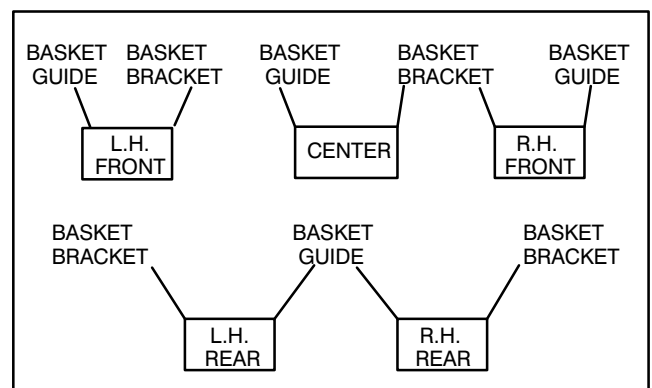
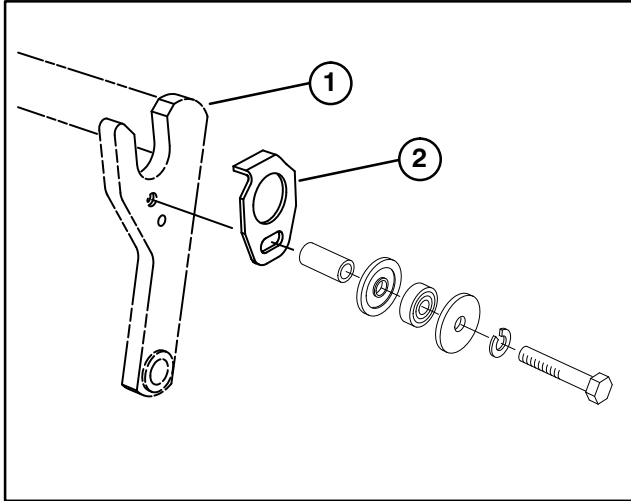
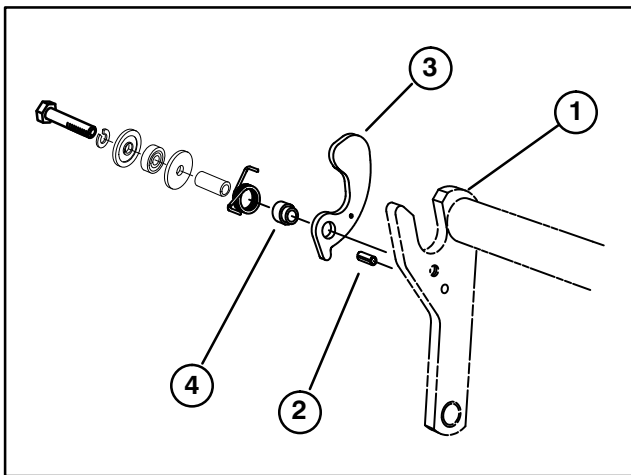
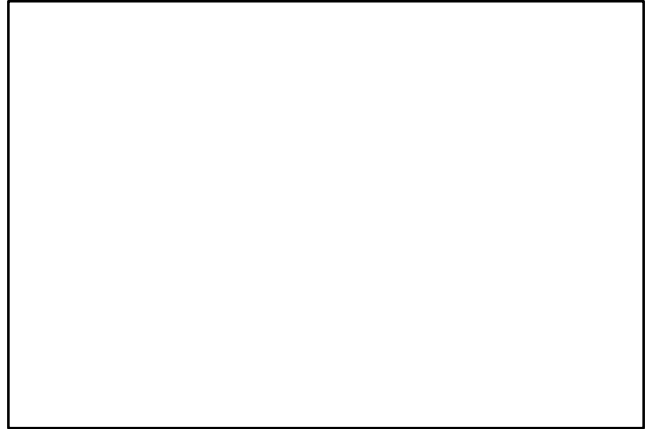

Figure 7
Figure 8
Figure 9
Figure 10
2. Using chart below (Fig. 7) determine the locations at which basket guides or basket brackets must be mounted to cutting unit carrier frames.
Note: If cutting units are equipped with Turf Compensation Kits, remove hardware securing kit to each end of carrier frame (Fig. 8 & 9) and reuse when installing basket guides and basket brackets.
3. Mount a basket guide (Fig. 8) to the appropriate side of each cutting unit carrier frame (see figure 7) with a 5/16-18 x 1-3/4" lg. capscrew, flatwasher and lockwasher or fasteners previously removed, as shown in figure 8.
4. Install a roll pin (Fig. 9) into hole in appropriate side of each cutting unit carrier frame (Fig. 7).
1-3/4" lg. capscrew, lockwasher, flatwasher, torsion spring, basket collar or fasteners previously removed, as shown in figure 9. Torsion springs are different for L.H. and R.H. sides of carrier frames. Three are (2) L.H. and (3) R.H. springs. Longer leg of spring is to be positioned forward as shown in Fig. 10.